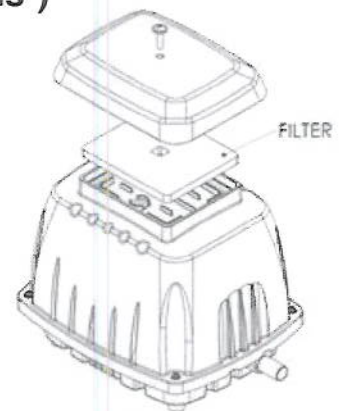

Figure 1
- E. Loosen the screw on top. (As shown in Figure1)